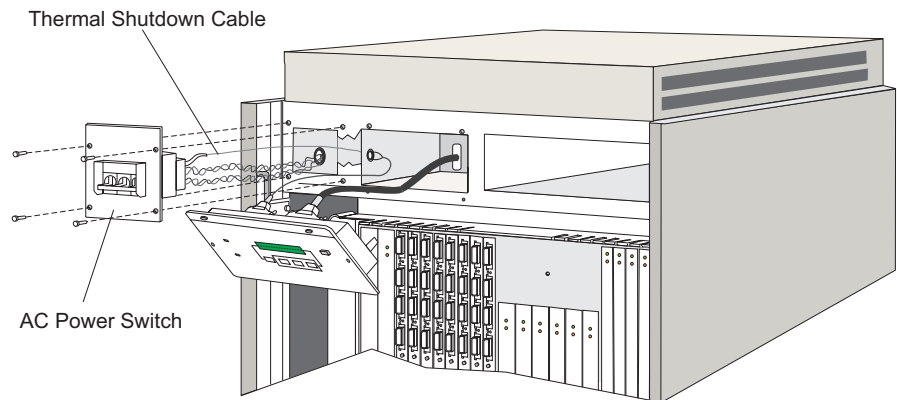

Figure 3-34. Thermal Shutdown Cable Assembly
Use the following procedure to remove the thermal shutdown cable assembly. Refer to Figure 3-34 on page 3-70.
3. Identify the ac power switch. Refer to Figure 3-34 on page 3-70.
Use the following procedure to replace the thermal shutdown cable assembly. Refer to Figure 3-34.